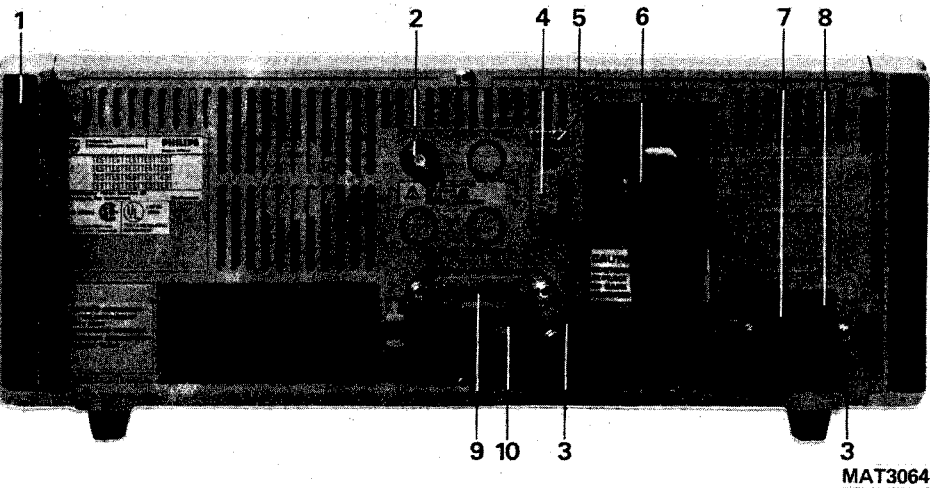

Figure 25.2 Rear view
25.1.2 Mechanical parts indicated in figure 25.2